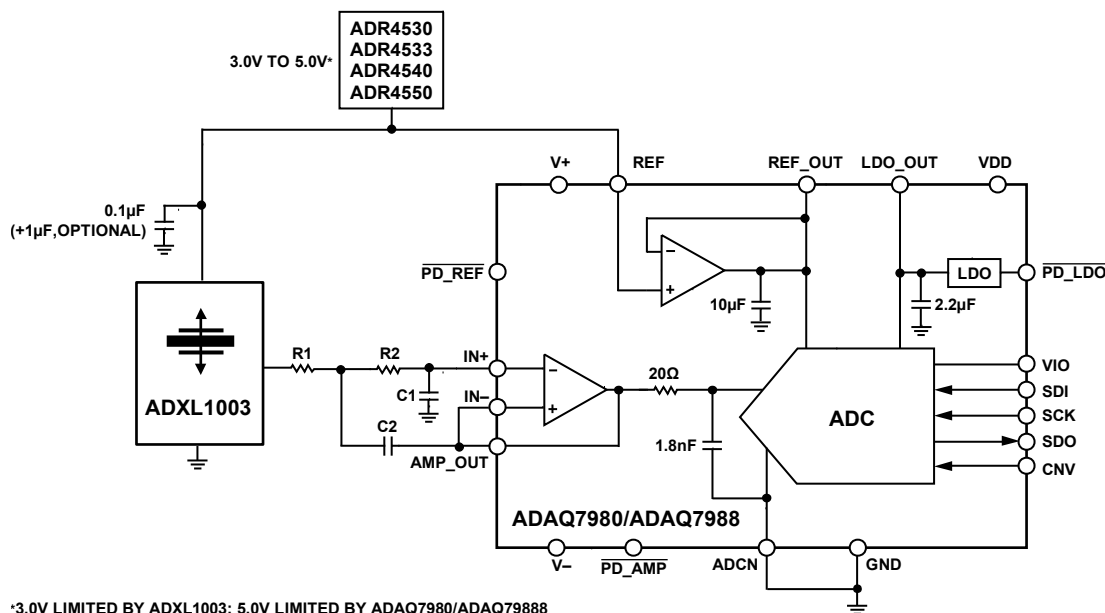

Figure 23. Application Circuit for the ADXL1003
See Figure 23 for an example of the interface, including components when measuring mechanical vibration from 0 kHz to 5 kHz. For a 5 kHz pass band, a single-pole resistor capacitor (RC) filter is acceptable. However, in some applications, use of a more aggressive filter and lower sample ADC sample rate is possible. The following components are recommended to form a 5 kHz low-pass RC filter at the output of the ADXL1003 when interfacing to an ADC, such as the ADAQ7980:  $R1 = 5\text{ k}\Omega$ ,  $C1 = 5\text{ nF}$ ,  $R2 = 0\text{ }\Omega$ , and  $C2$  are not required. A minimum ADC sample rate of 20 kHz is recommended to avoid aliasing. When using sampling rates less than the resonance frequency (typically 28 kHz), be aware and account for the effective gain at the output of the sensor due to the resonance to ensure out of band signals are properly attenuated and do not alias into the band.
See Figure 23 for an example of the interface, including components when measuring mechanical vibration from 0 kHz to 10 kHz. The following components are recommended to form a two-pole RC filter at the output of the ADXL1003:  $R1 = 5\text{ k}\Omega$ ,  $C1 = 2\text{ nF}$ ,  $R2 = 5\text{ k}\Omega$ , and  $C2 = 2\text{ nF}$ . A minimum ADC sample rate of 200 kHz is recommended to avoid aliasing.